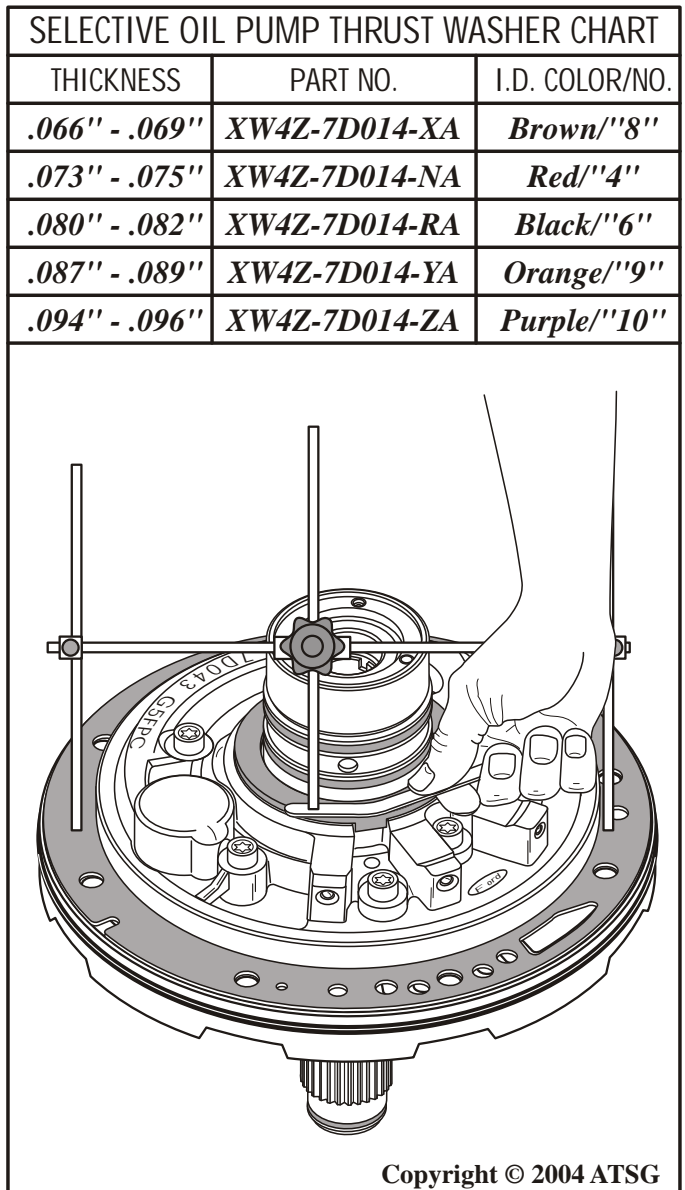

Figure 166
50. Install pump gasket onto the pre-assembled oil pump, as shown in Figure 166.
51. Place the "H" gauge with the previously set center rod onto the oil pump in the opposite direction, with the center rod placed over the selective washer, as shown in Figure 166.
52. Measure with a feeler gage between the center rod and selective thrust washer, as shown in Figure 166.